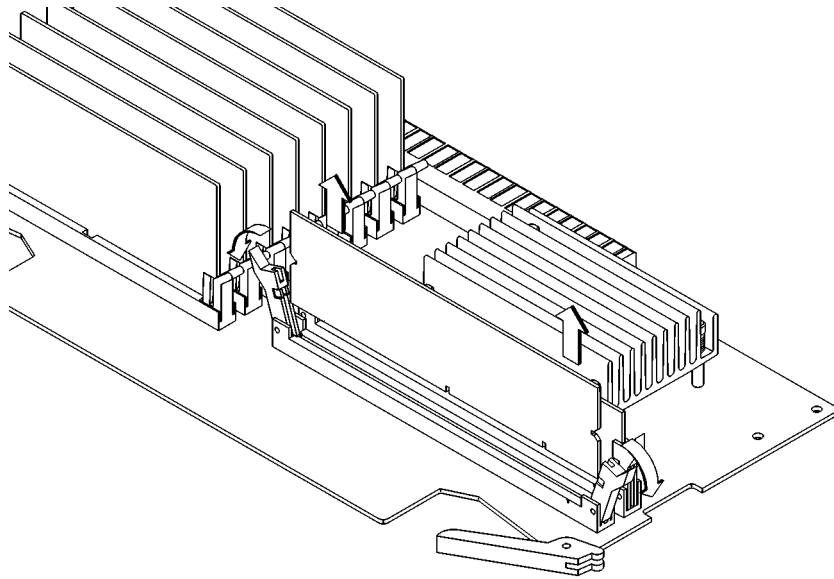

Figure 43 **Removing a Cache Module**
- 2 To remove a cache module, push the ejector tabs on each side of the module. Lift the cache module up and out of the connector and place it on a static-free surface. Figure 43 shows how to remove a cache module.